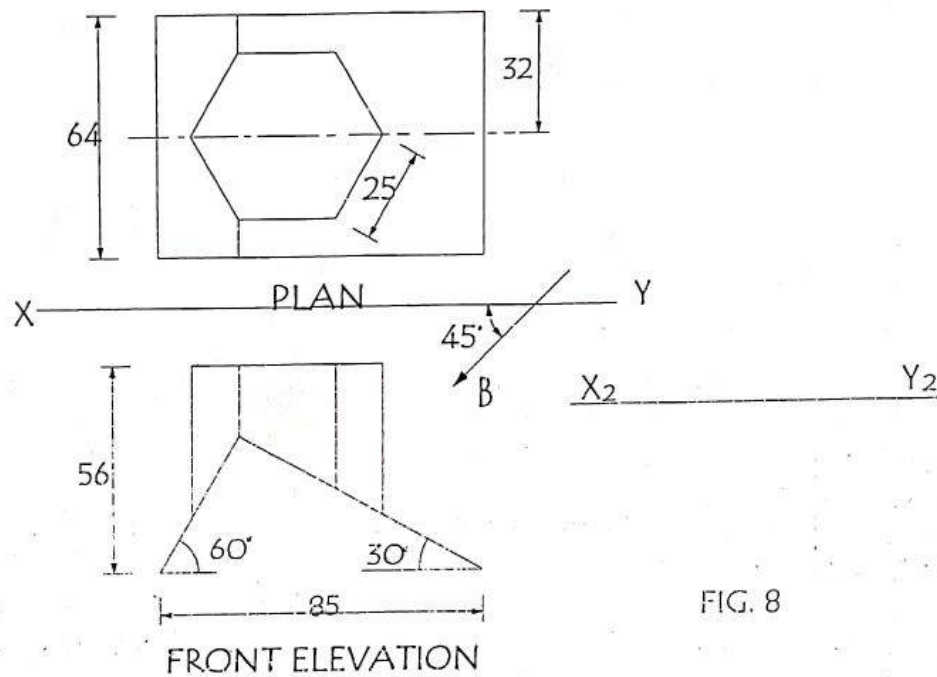

FIG. 8
8. Given in fig.8 is a regular hexagonal vent duct designed to carry smoke in the roof of a kitchen. The roof is pitched at  $60^\circ$  and  $30^\circ$  as shown in the figure below.